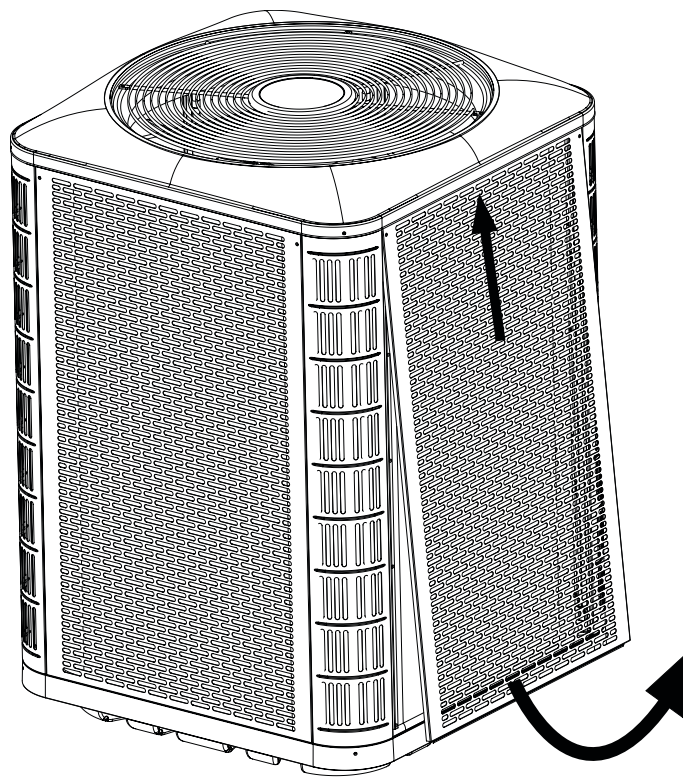
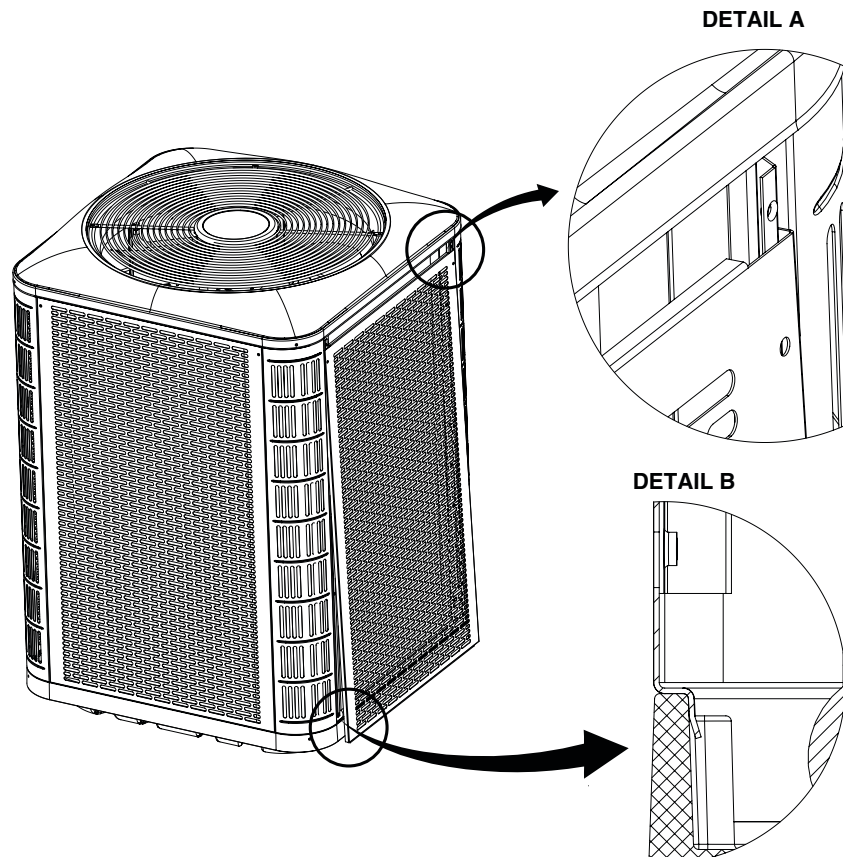

Figure 3. Panel Removal
Figure 4. Panel Installation
- To access the internal components of the unit, refer to Figure 3, \(page 7\) for panel removal and Figure 4, \(page 7\) for panel installation.
2. Slide the panel up towards the top pan in order to clear the bottom flange from the base pan. See Figure 3.
1. Insert the top corners of side panel flanges into the corner post channels as shown in Detail A in Figure 4.